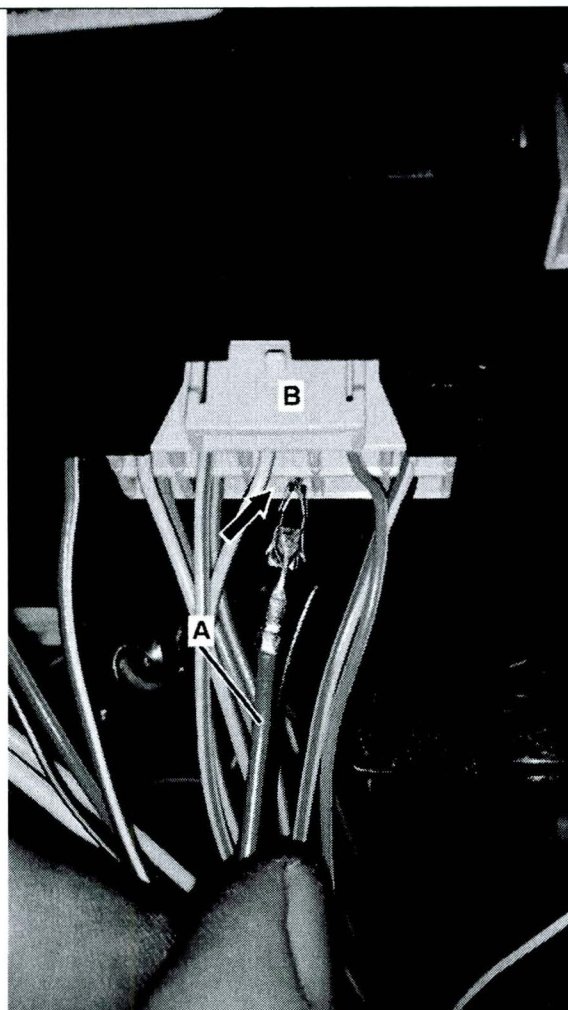

Figure 7
9. Connect the red wire (A, Figure 7) from illuminated star wiring harness to the S8 Connector (B) at position no. 8 (arrow).